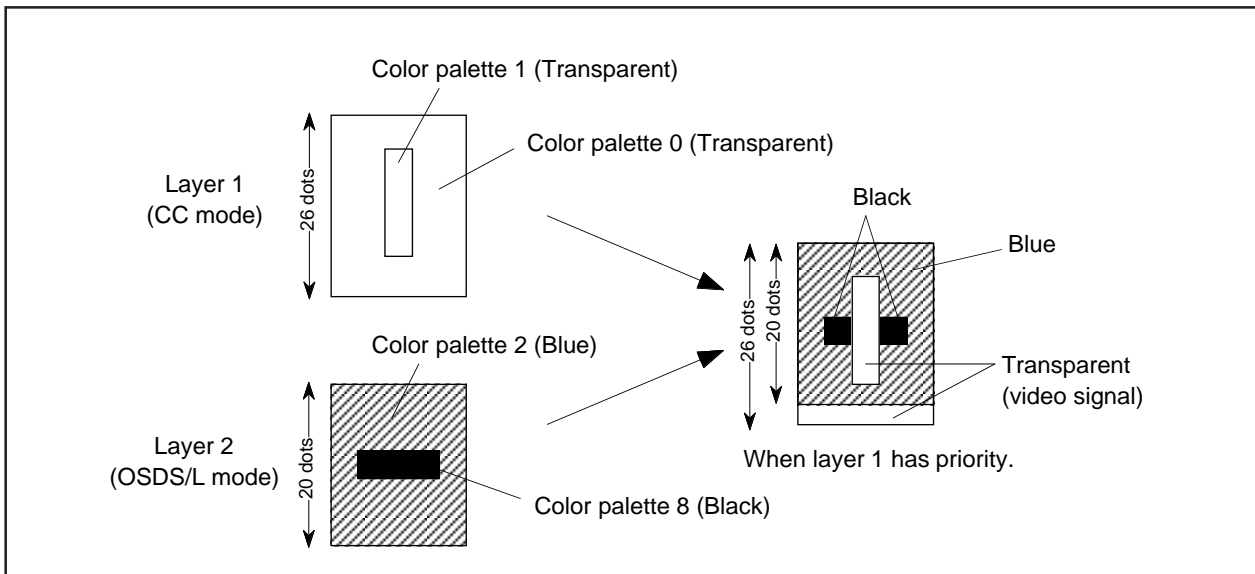

Figure 2.16.28 Difference between color palette 0 (transparent) and transparent setting of other color palettes
Only in CDOSD mode, a dot which selects color palette 0 or 8 is colored to the color palette set by RC13 to RC16 of OSD RAM in character units (refer to Figure 2.16.28).
- 2:** Color palette 0 (transparent) and the transparent setting of other color palettes will differ. When there are multiple layers overlapping (on top of each other, piled up), and the priority layer is color palette 0 (transparent), the bottom layer is displayed, but if the priority layer is the transparent setting of any other color palette, the background is displayed without displaying the bottom layer (refer to Figure 2.16.28).